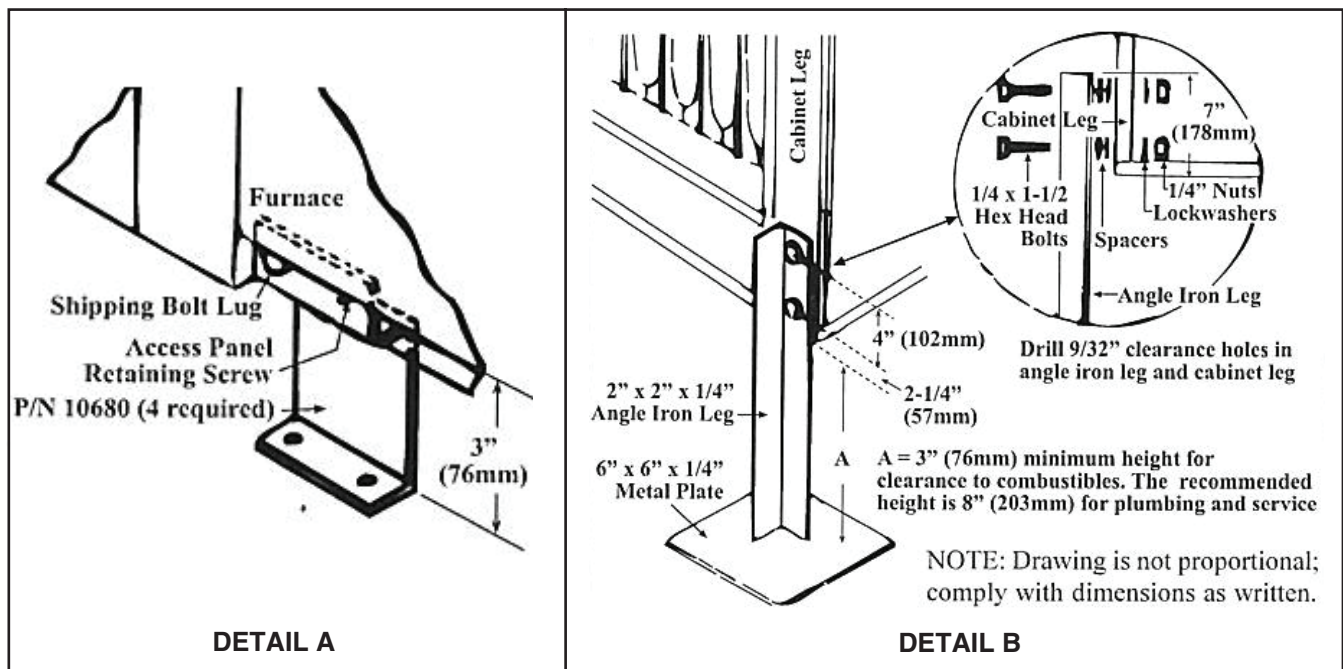

Figure 7. Clearance Supports for RX and RPV Series Models
Lifting holes are provided at each of the four corners of the mounting support rails. Use spreader bars when lifting to prevent chains or cables from damaging the cabinet. RG series models may be placed directly on a slab or roof where support is adequate. Support rails provide required clearance from combustibles. RX and RPV series models require a 3-inch (76-mm) minimum clearance from the bottom of the unit to a combustible surface. Available support feet (PN 10680, four (4) required, see DETAIL A, Figure 7) or 3-inch (76-mm) field-fabricated supports (see DETAIL B, Figure 7) will provide adequate clearance.